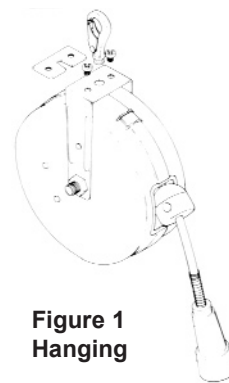

Figure 1
1. The Beaver Retractable Air Hose can hang from the hook or be mounted to the ceiling, wall or floor. See figures 1 - 4 for installation instructions.